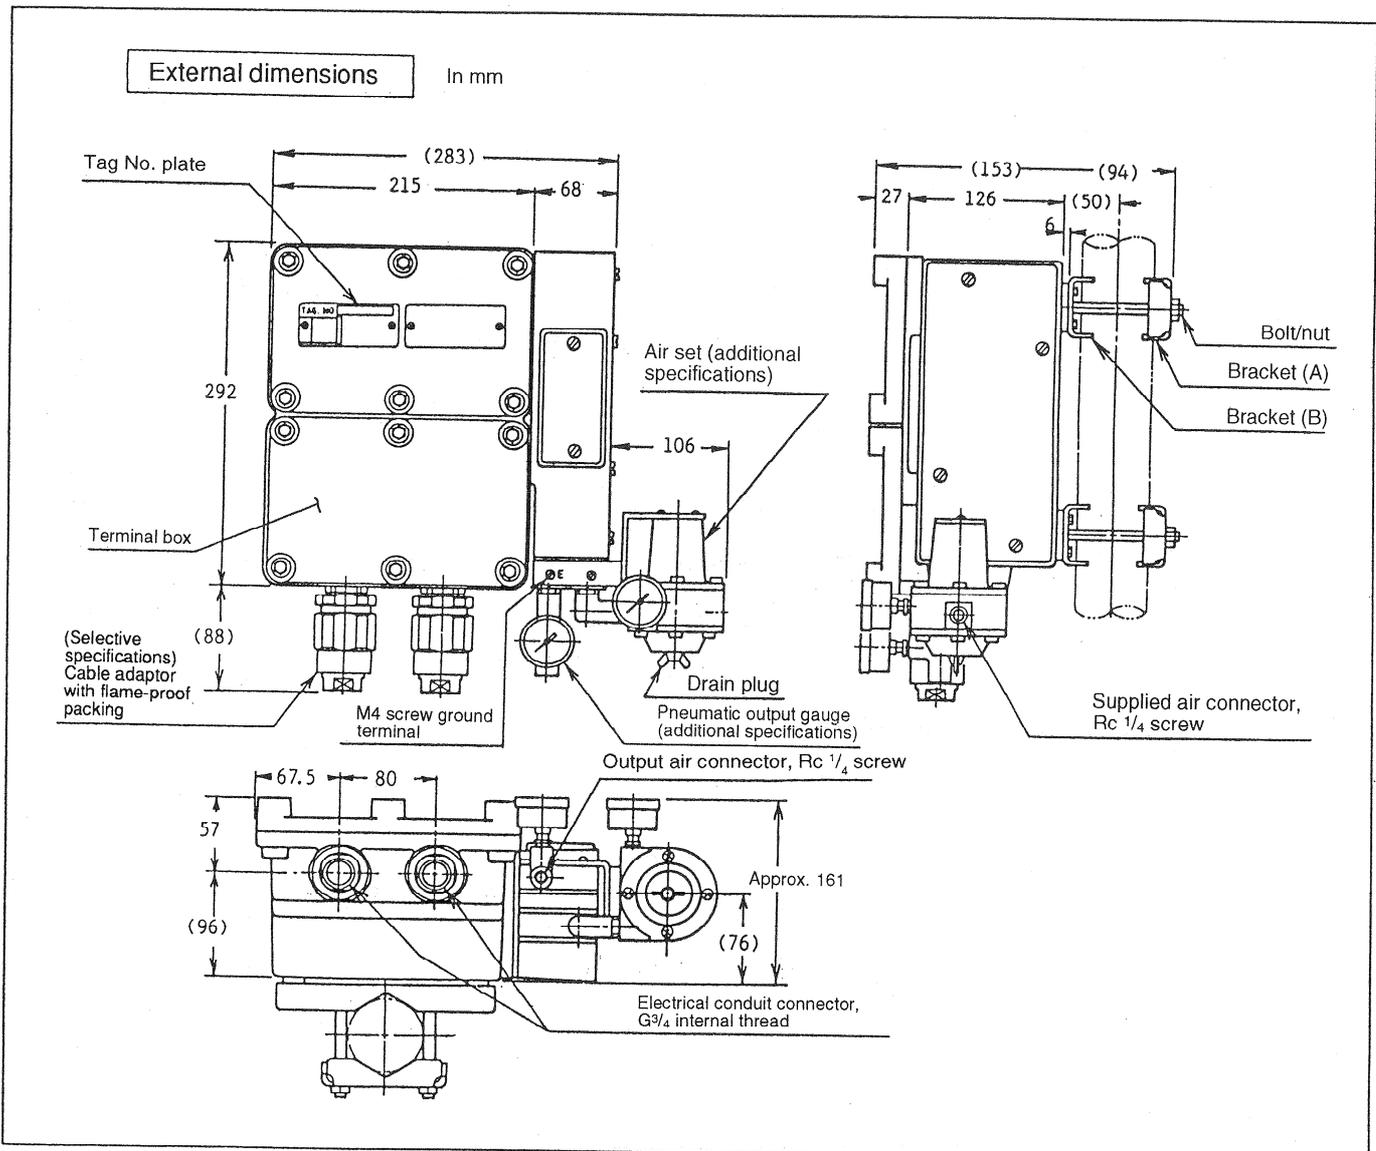
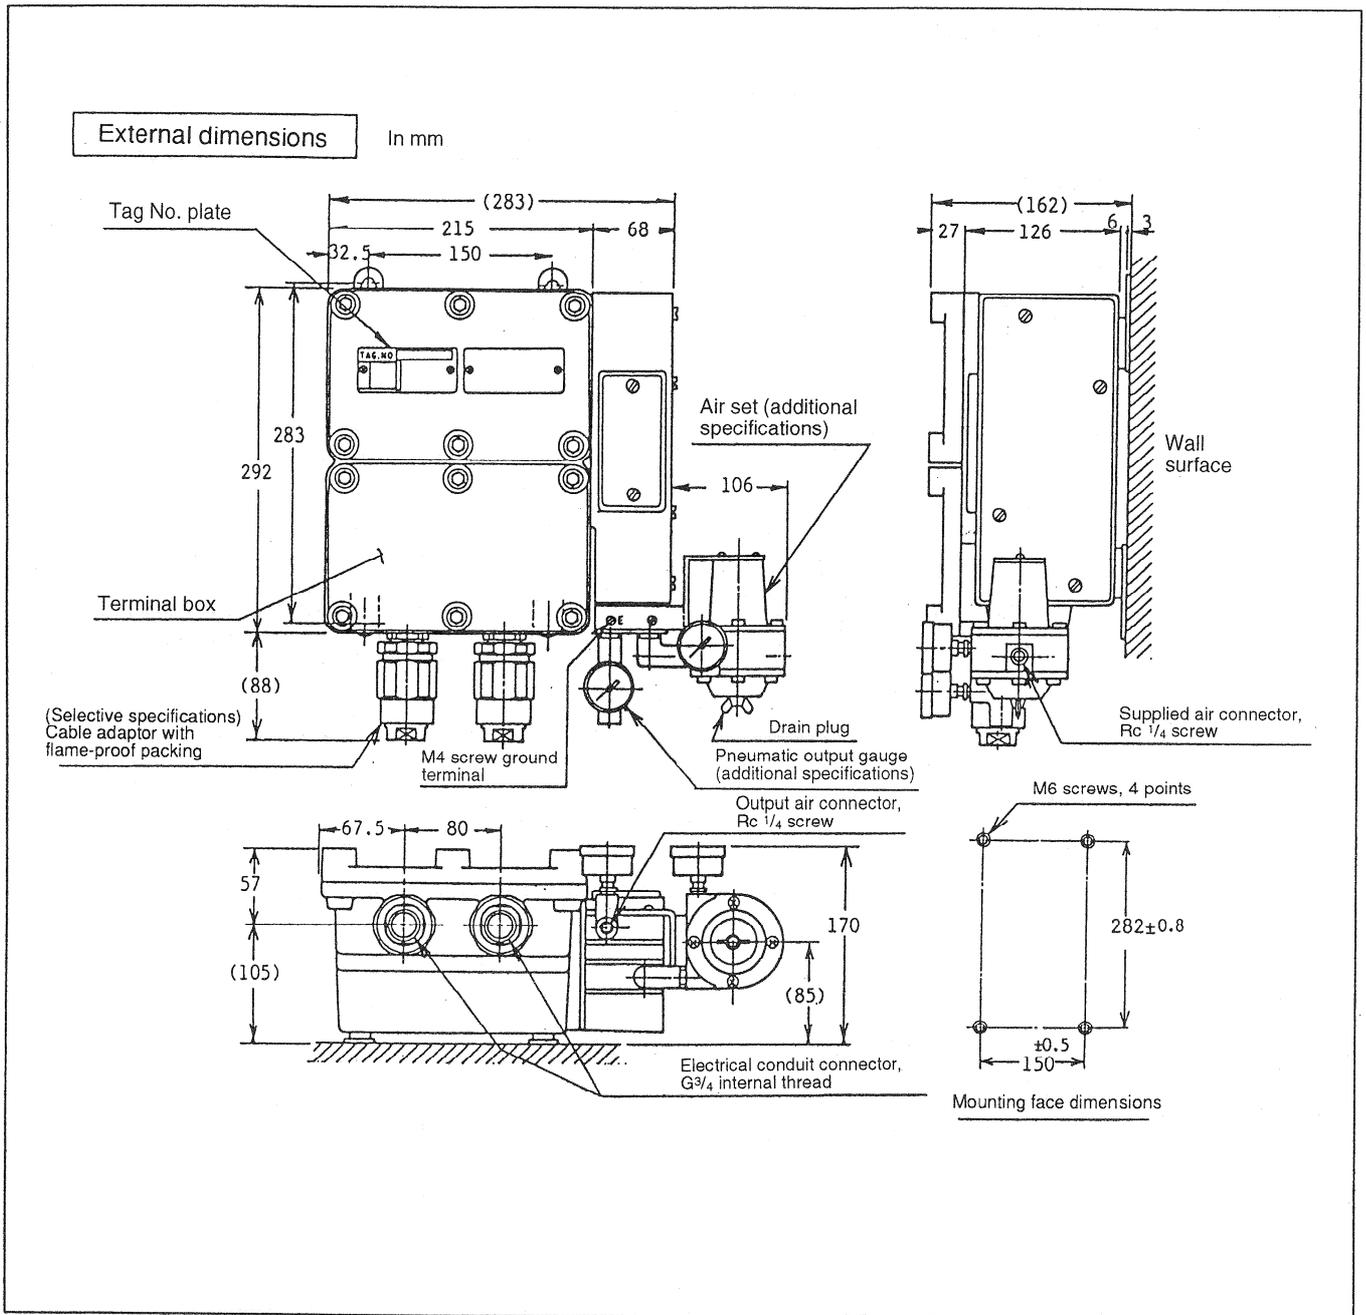

Figure 5-1 2B pipe mounted
Figure 5-2 Wall mounted
Refer to Figure 5-1 or Figure 5-2 to mount the converter on a 2B pipe or wall.
- (b) Pipe matching is Rc¹/₄ everywhere. For conducting the work, refer to Figure 5-1 or Figure 5-2.